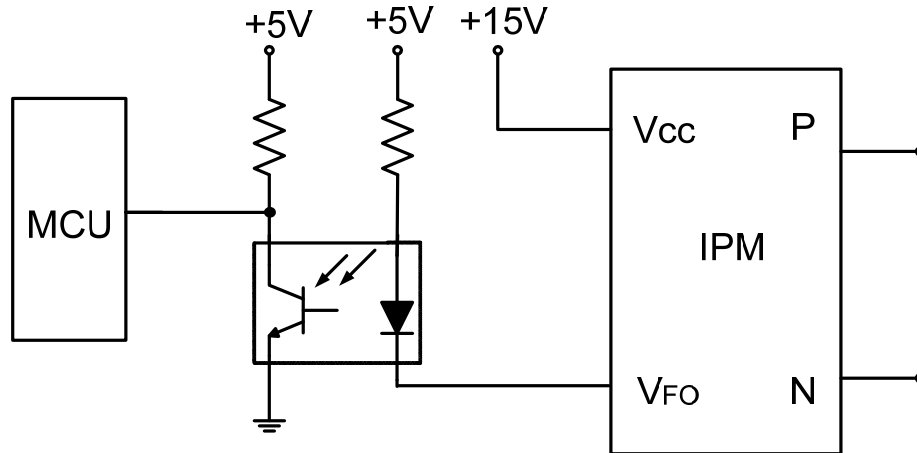

Figure 4-14. Diagram of FO pin Measurement Circuit
- Figure 4-14. shows the relationship between sensing resistor values and interrupted current values, based on various conditions including fluctuation range described in Table 4-6.